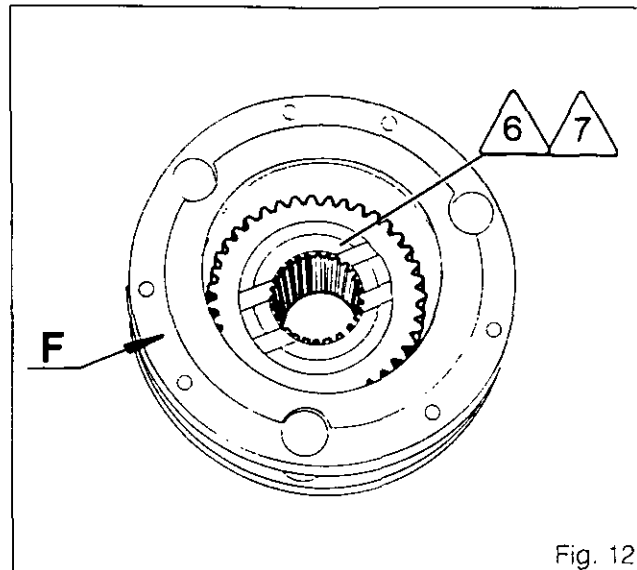

Fig. 12
Fit the 39 tooth sun gear /6\ into the planetary carrier cover (Fig.12).
Fit the 36 tooth sun gear /7\ into the planetary carrier cover (Fig.12).
**N.B. :** In all versions, fit the gear so that the lubricating grooves in it are facing towards face F of the planetary carrier cover (Fig.12).